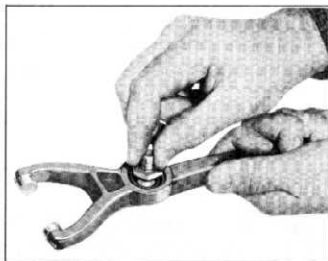

Fig. 137—Checking Free Fit of Fork Ball in Clutch
7. Check fit of ball in clutch fork (fig. 137). This fit should be snug without end play.